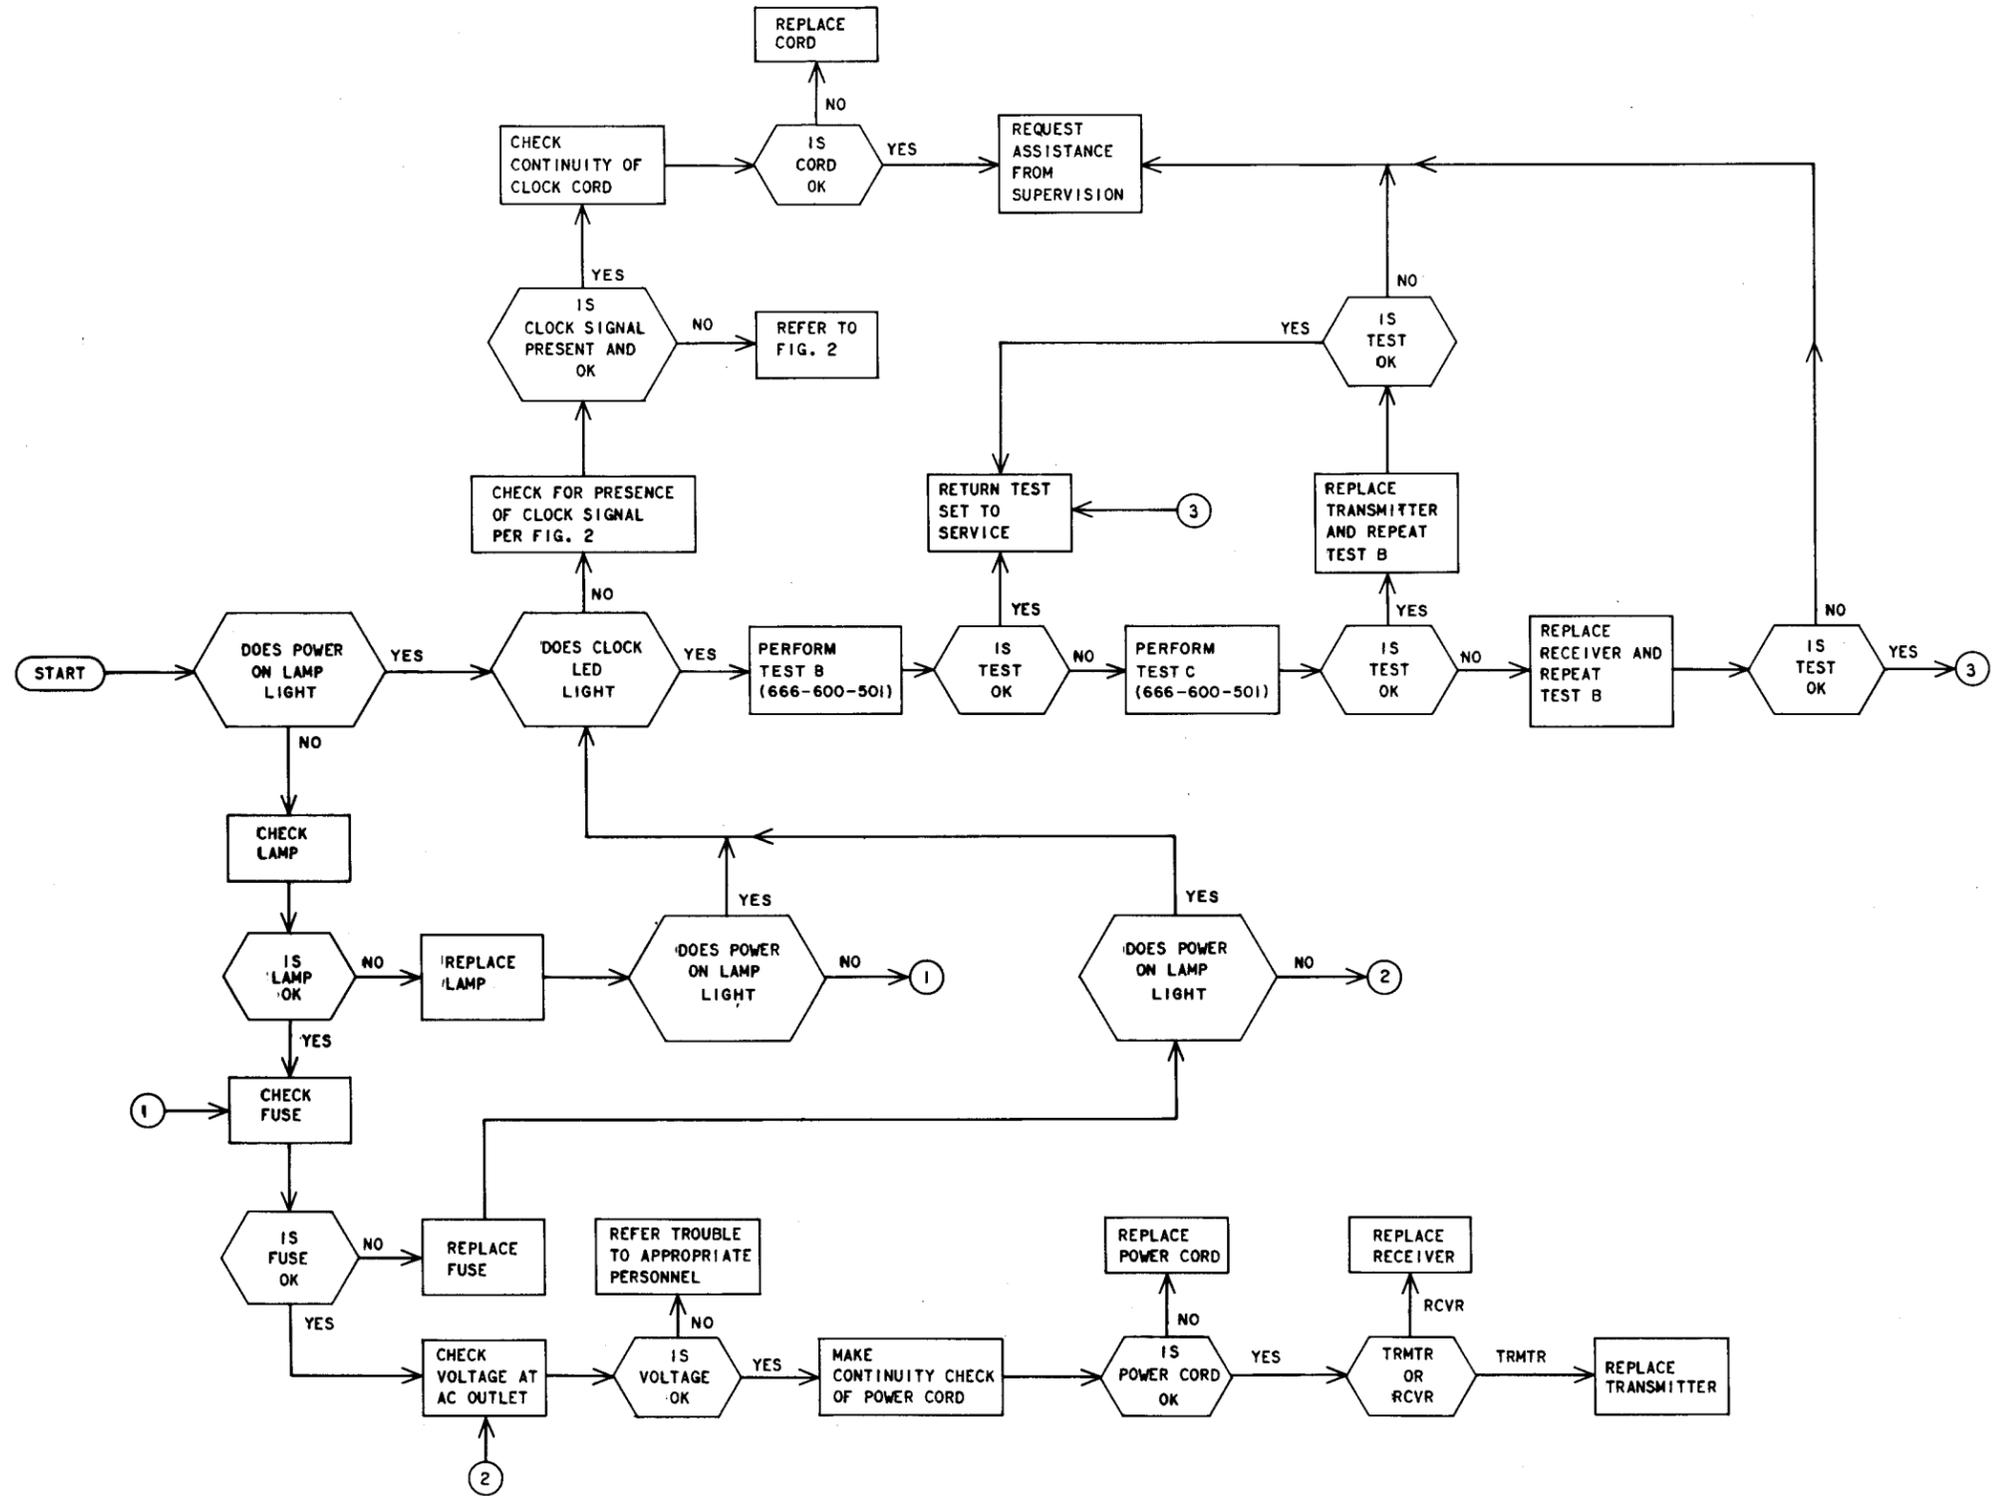

Fig. 1—Troubleshooting Flowchart for KS-20908 and KS-20909 Data Test Sets
4.02 The following flowcharts (Fig. 1 through 14) will aid in locating defective components in the testboard. The tests referred to in the flowcharts can be found in Section 666-600-501.